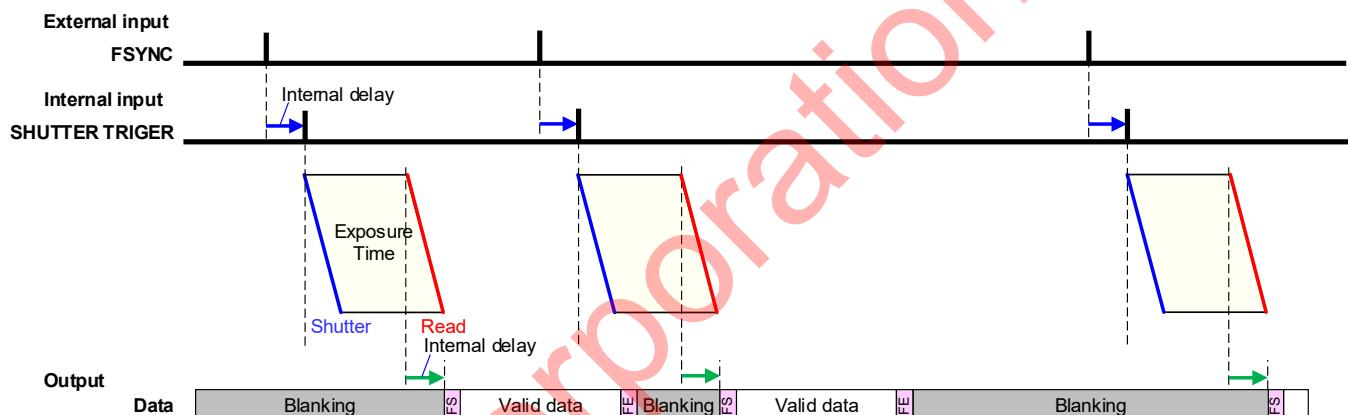

Figure 6-5 Example of an Operation in Shutter Trigger-Based Sync
- As illustrated in “**Figure 6-5**,” the sensor does not operate autonomously after the beginning of image output. In order for the sensor to produce image output, the sensor needs to receive the external sync signal or the host is required to select the autonomous operating mode in advance.